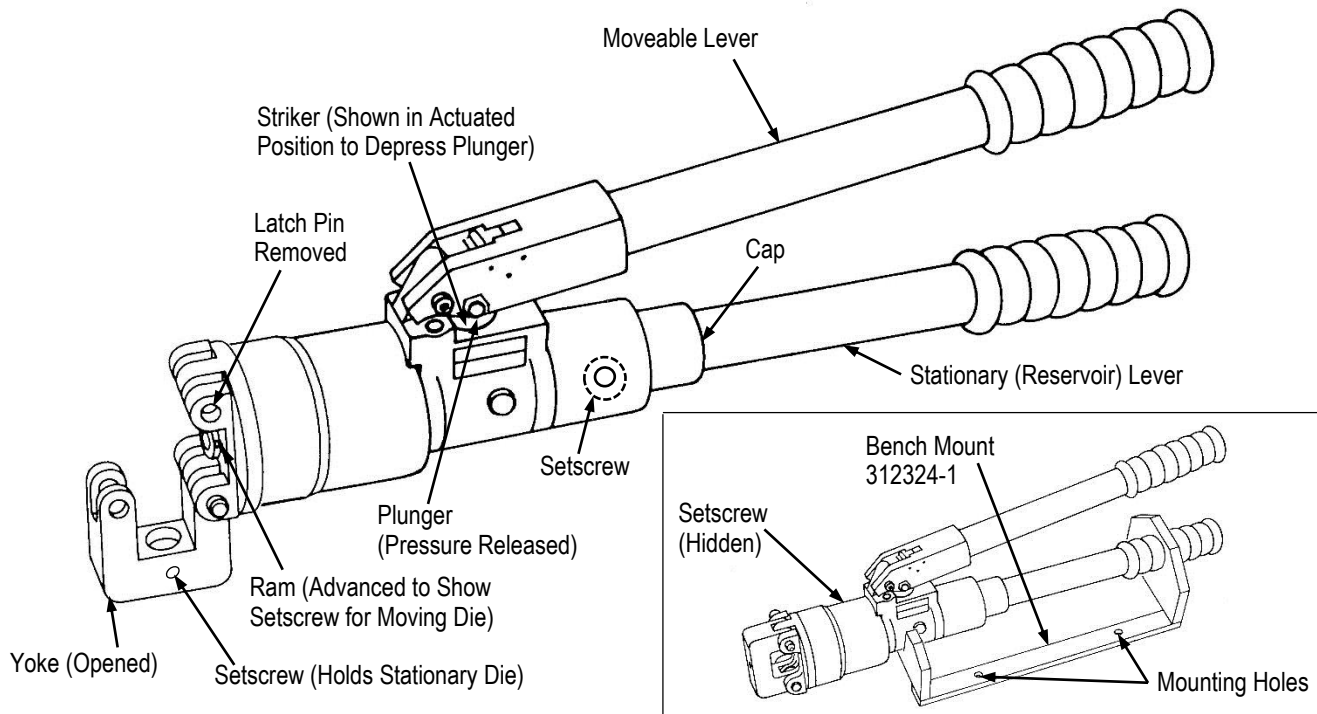

Figure 1
2. DESCRIPTION (Figure 1)
The tool may be bench mounted by sliding it into Bench Mount 312324-1 (purchased separately) and securing it tightly with the mount setscrew. The mount has four holes for securing it to a bench. See Figure 1, inset.
6. Retract moveable die by opening the movable handle to the full open position, turn the movable handle (to actuate striker). **DO NOT TURN THE MOVABLE HANDLE WHILE IN THE CLOSED POSITION AS YOU WILL DAMAGE THE PLUNGER (PRESSURE RELEASE)**, compress handles to depress plunger (pressure release). Movable die will now retract. See Figure 1.
4. Loosen setscrew in cap of stationary (reservoir) lever. See Figure 1.